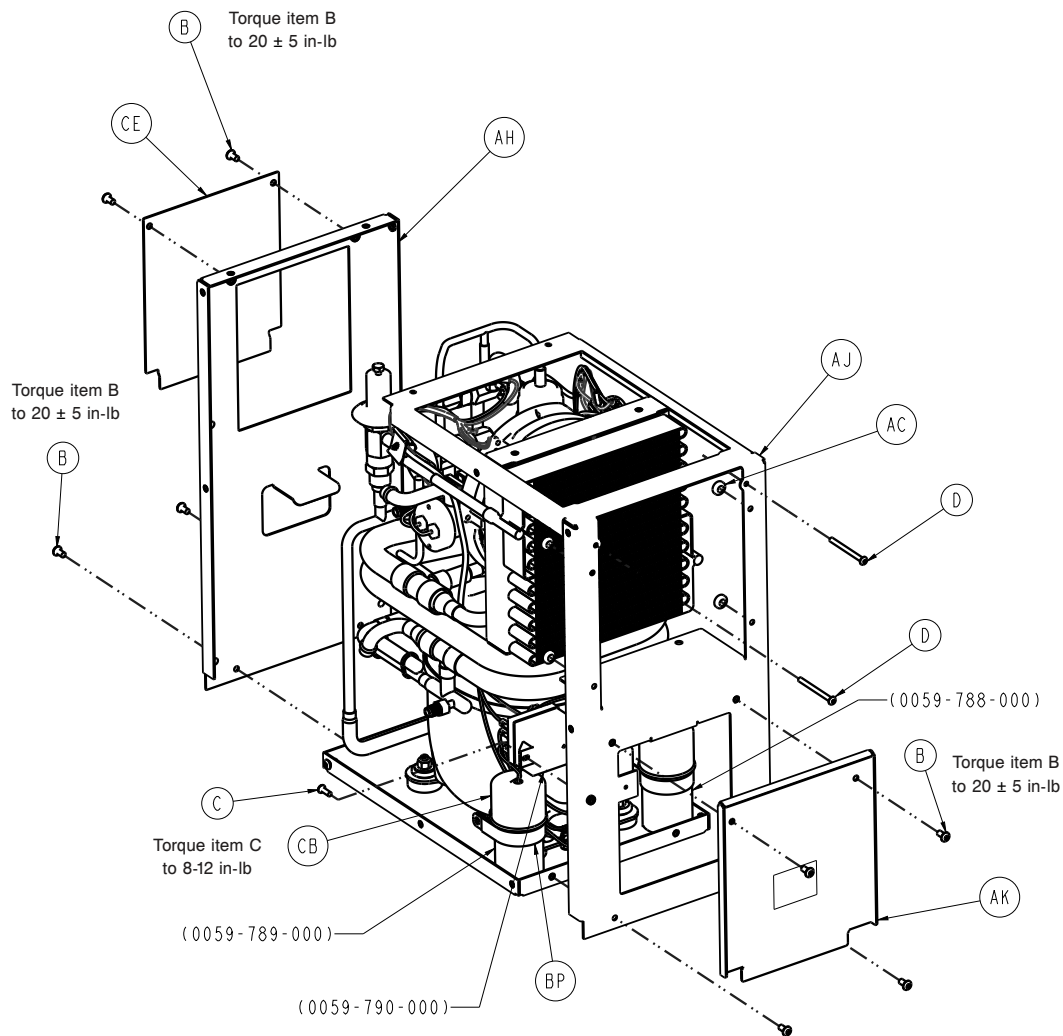

Figure 29 – Fan assembly
14. Using 3/32" Hex, remove the two screws (D) that secure the fan assembly to the product (Figure 29).